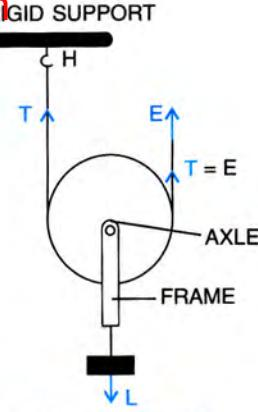

Fig. 3.22 Single movable pulley
Fig. 3.22 shows a single movable pulley suspended by passing an inextensible string of negligible mass around its grooved rim. The load  $L$  to be raised is suspended from its axle. One end of the string is tied to a hook  $H$  at a rigid support and the effort  $E$  is applied at its free end. The tension  $T$  acts on the string on both sides of the pulley as shown in Fig. 3.22.
In Fig. 3.22, if we neglect (1) the friction in the pulley bearings or at the axle, and (2) the weight of the pulley and string, the load  $L$  is balanced by the tension  $T$  in *two* segments of the string and the effort  $E$  balances the tension  $T$  at the free end, so